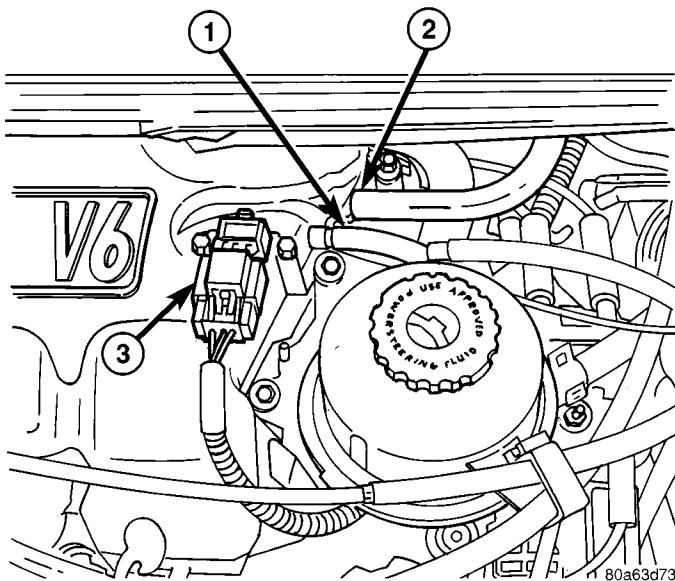

Fig. 117 BRAKE BOOSTER & LDP VACUUM HOSES
(11) Disconnect the brake booster and leak detection pump (LDP) hoses from intake manifold (Fig. 117).
- (5) Connect the MAP sensor electrical connector.
- (6) Connect the brake booster and LDP vacuum hose to intake manifold (Fig. 117).